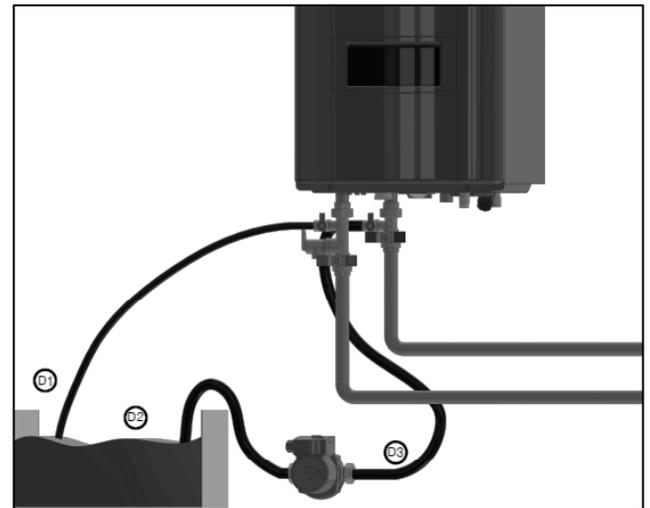

Figure 48 – Hose Connection Detail
3. Connect one hose (D1, Figure 48) to the valve (V3) and place the free end in a bucket. Connect one of the hoses (D3) to the circulation pump outlet and the cold water inlet line to valve V4. Connect the other hose (D2) to the circulation pump inlet and place the free end in the bucket.